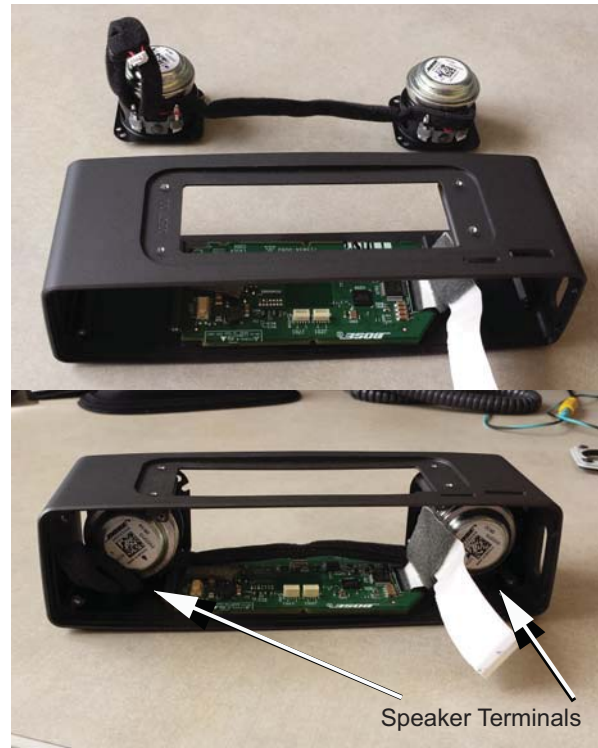

Figure 22. Driver Placement
1.1 When installing the drivers, make sure to place the speaker terminals toward the bottom. Figure 22.